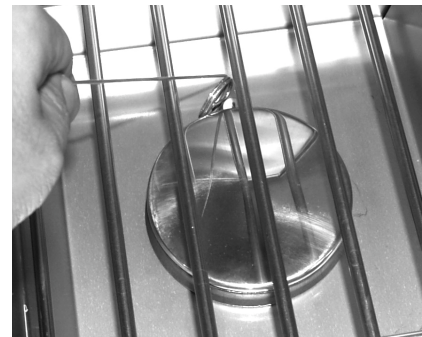

Fig. 35-2 Manual lighting
2. Insert either a burning long-barrel butane lighter, a burning long-stem match, or a burning match held by a wire extension holder through the cooking grid opening to the burner (Fig. 35-2). Hold the flame against the edge of the burner.
4. If the burner does not light within five (5) seconds of turning the control knob, **immediately depress the knob and turn the valve to OFF**. **WAIT FIVE (5) MINUTES** before repeating steps 2 through 4 of the **MANUAL LIGHTING** instructions.